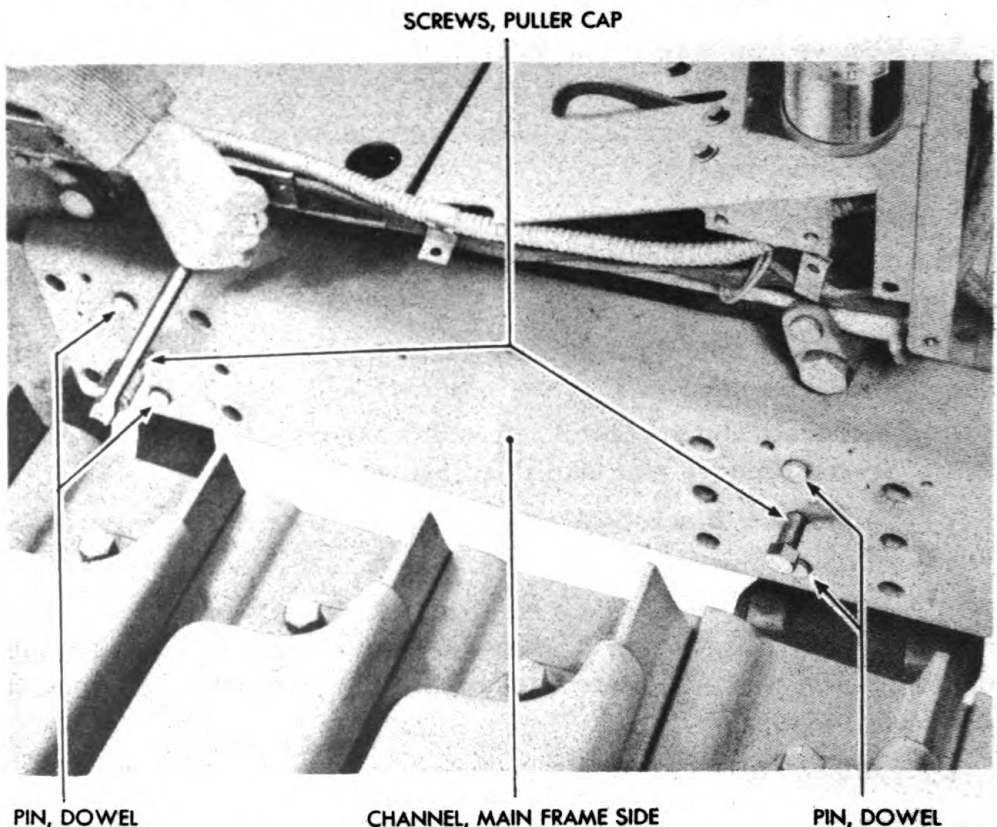

Figure 179 — Main Frame Side Channel Removal
(4) REMOVE ENGINE SIDE SHEET (RIGHT) AND AIR RESERVOIR. Follow procedure outlined in TM 9-1777B.
(5) REMOVE MAIN FRAME SIDE CHANNEL (RIGHT) (fig. 179).